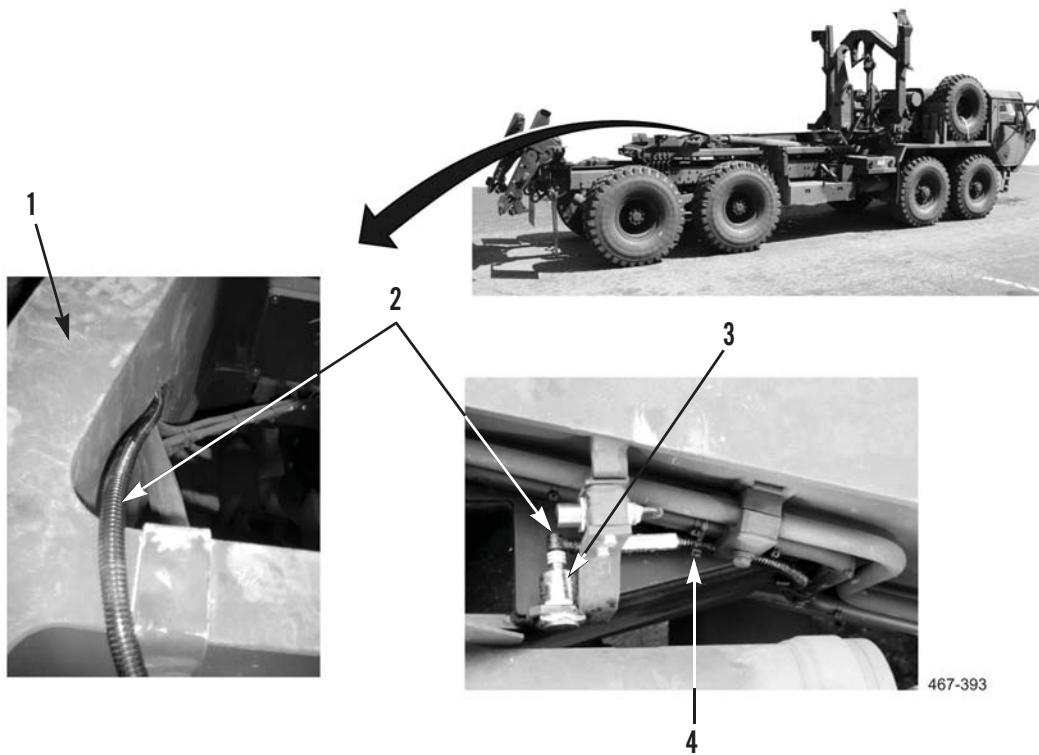

Figure 26. Hook Arm Sensor Installation.
1. Route hook arm sensor wiring harnesses (Figure 26, Item 2) through hook arm frame (Figure 26, Item 1).
2. Connect hook arm sensor harness (Figure 26, Item 2) to hook arm sensor (Figure 26, Item 3).
3. Install new tiedown straps (Figure 26, Item 4) as required.